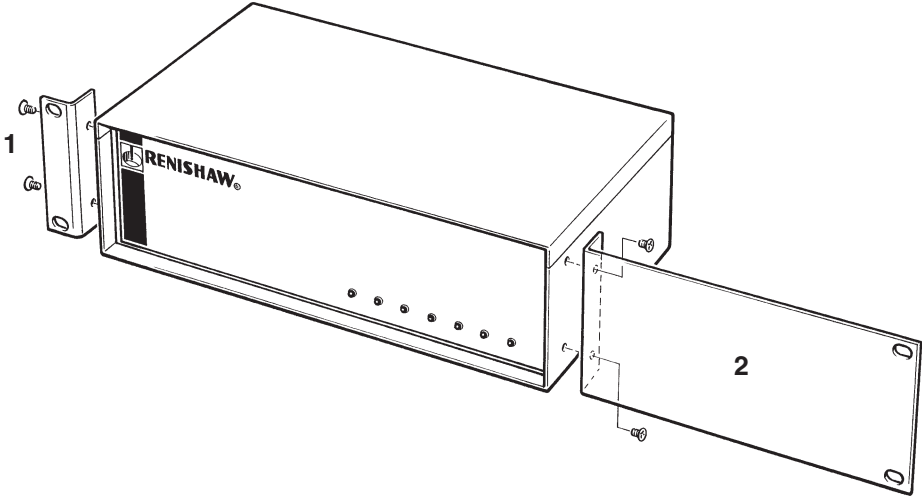

Figure 13 - Fitting blanking panel and rack mounting bracket
Remove the blanking plugs from the side panels of the PHC10-2 and fit the blanking panel (2) and rack mounting bracket (1) using the screws supplied as shown in figure 13.